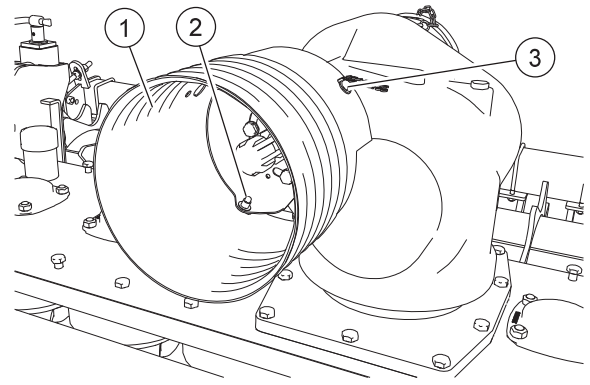

FIG. 14
- Put the guard into place (1, “Fig. 14”). Loosen the screws (2). Loosen the bolt (3).